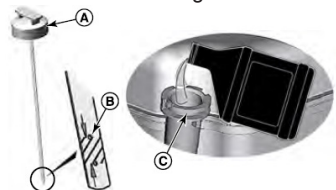

Figure 14
- a) Remove the oil filler cap and wipe the dipstick clean (Figure 14.A).
- b) Refit the dipstick into the filler neck, screw it down. Remove the dipstick and check the oil level; oil should be at the top of the full indicator on the dipstick (Figure 14.B). The oil tank capacity is 0,50 litre.
- c) If the oil level is low add Mounfield oil part number MX855 or a SAE 30 or 10W-30 oil, to the top of the full indicator on the dipstick. Slowly add oil into the engine oil fill (Figure 14.C). Do not overfill.